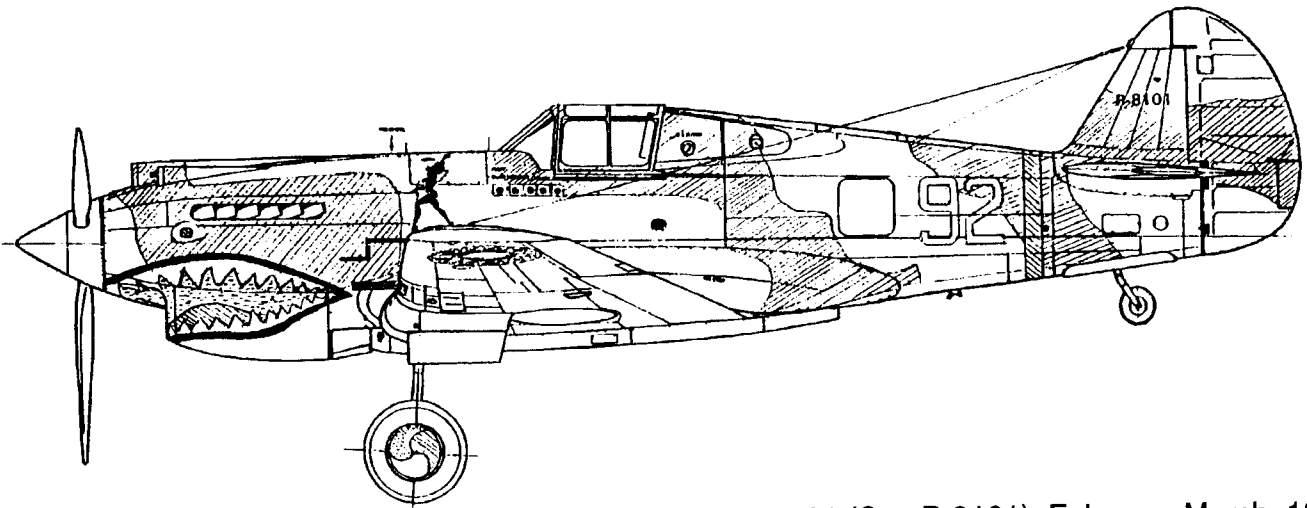

Figure 9 Hawk 81-A2 Number 8101 (Ser. P-8101), February-March, 1942
**Figure 9. Hawk 81-A2 number 92 (P-8101), February-March, 1942:** This machine was flown by Duke Hedman of the Third Squadron. Serial and fuselage number were white, and the tail band was red. The shark head design included black lips, white teeth, and a red tongue, but the area inside the mouth was filled-in with a medium gray color that was undoubtedly hand-mixed. This gray appears in a color film to have a slight reddish tint. (FS 36320, with some red, is close.) The pupil of the eye was red. Red/blue/white pinwheels were painted on the wheel covers. A pilot inscription was added in front of the cockpit, and five kill marks were painted under it. Red and white "hell's angels" were added by Stan Regis in front of the cockpit. The pose of the one on the starboard side is uncertain. No tiger decal is documented for this machine (certainly not at this date). This pattern of overpainting on the